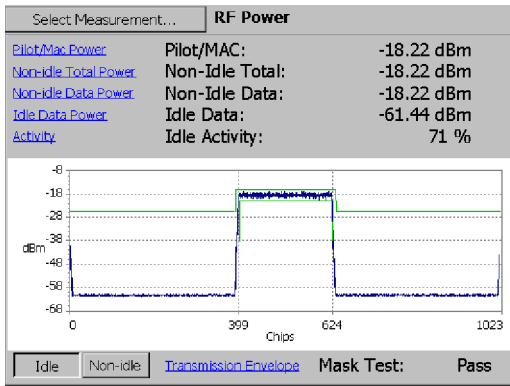

Figure 3-38: 1xEV-DO RF power measurement
7. Tap the **Idle** or **Non-Idle** button. See Figure 3-38. Table 3-12 describes the 1x-EVDO measurement fields.